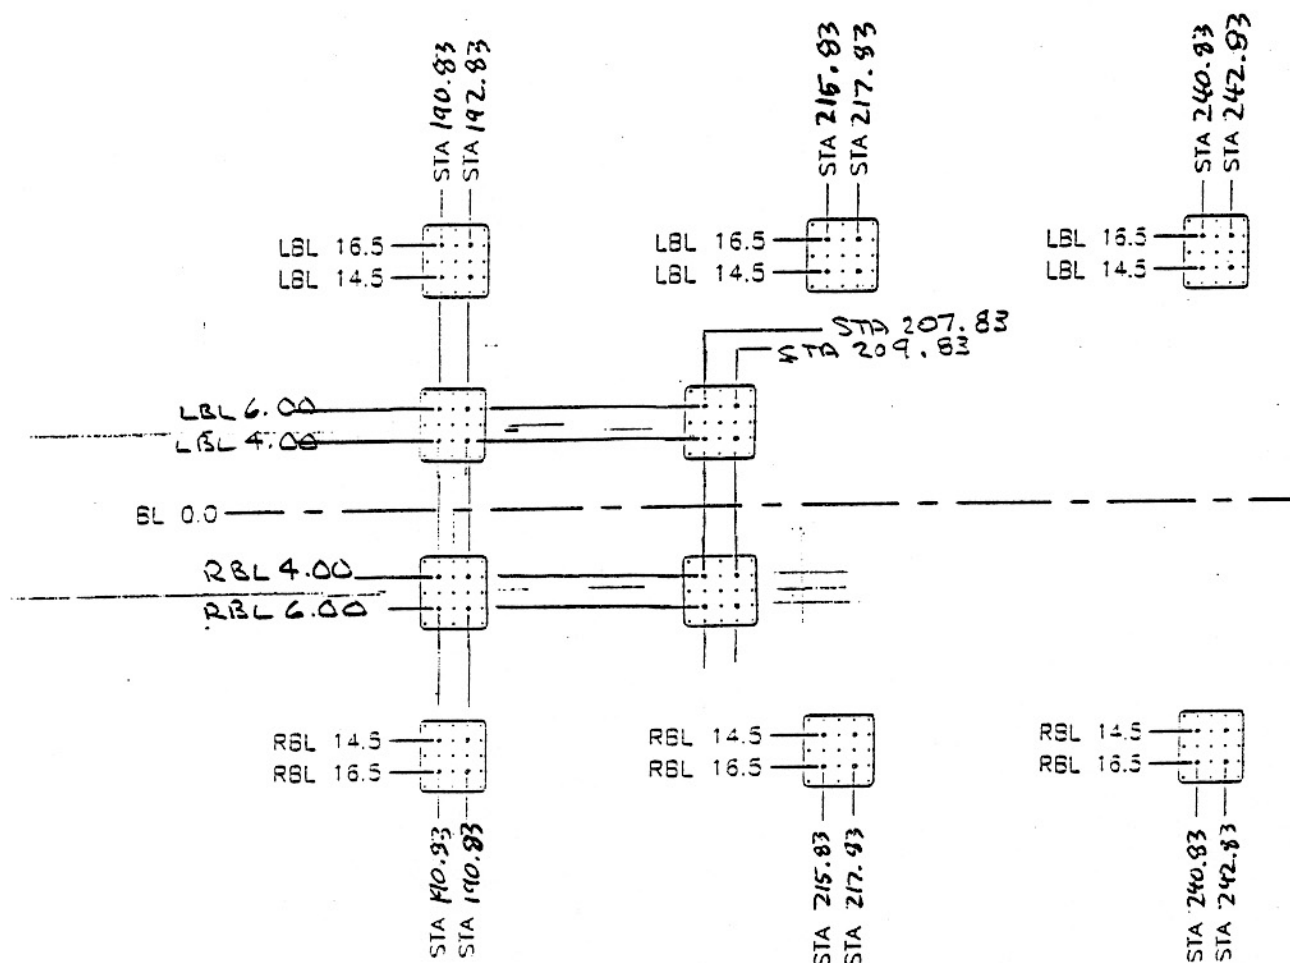

Figure 2 - Outer Doublers Locations
The following step by step procedures for the installation of the Dart Hardpoint Kit for the Bell 407 should be followed for successful installation of the Dart Hardpoint Kit. The locations of each of the 6 hardpoint outer doublers are illustrated in Figure 2.
2. Drill $\varnothing 0.098$ pilot holes through the aircraft tub, penetrating the outer and inner skins (4 holes at each of 6 hardpoint locations) at the station line and butt line locations listed in Figure 2. Maintain holes perpendicular to the aircraft tub. The 2" hole spacing must be transferred to the inside of the tub.